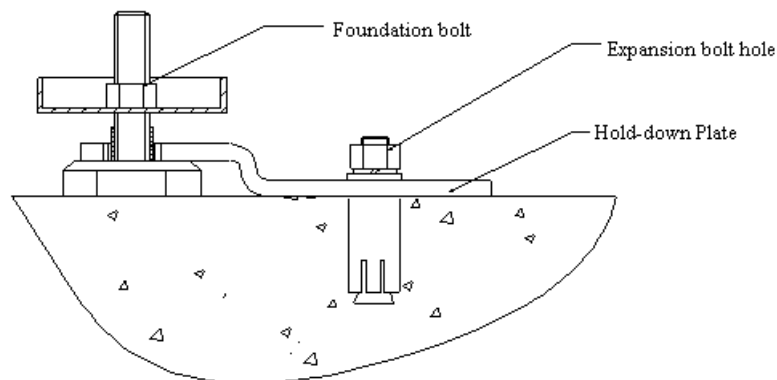

Figure 2-4 Installation of cabinet accessories
(2) Place cabinets based on the engineering design requirements, accurately mark out the positions of the supports on the floor, install the accessories for cabinet installation, mark out the holes for accessories, as shown in Figure 2-4, drill vertical holes with the right punch drill and drill bit, and then install M12 expansion bolts.